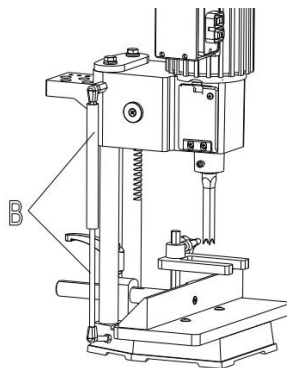

Fig. 5
4. Fig. 5, illustrates the gas spring (B) assembled to the machine. The gas spring (B) keeps the head in the up position.